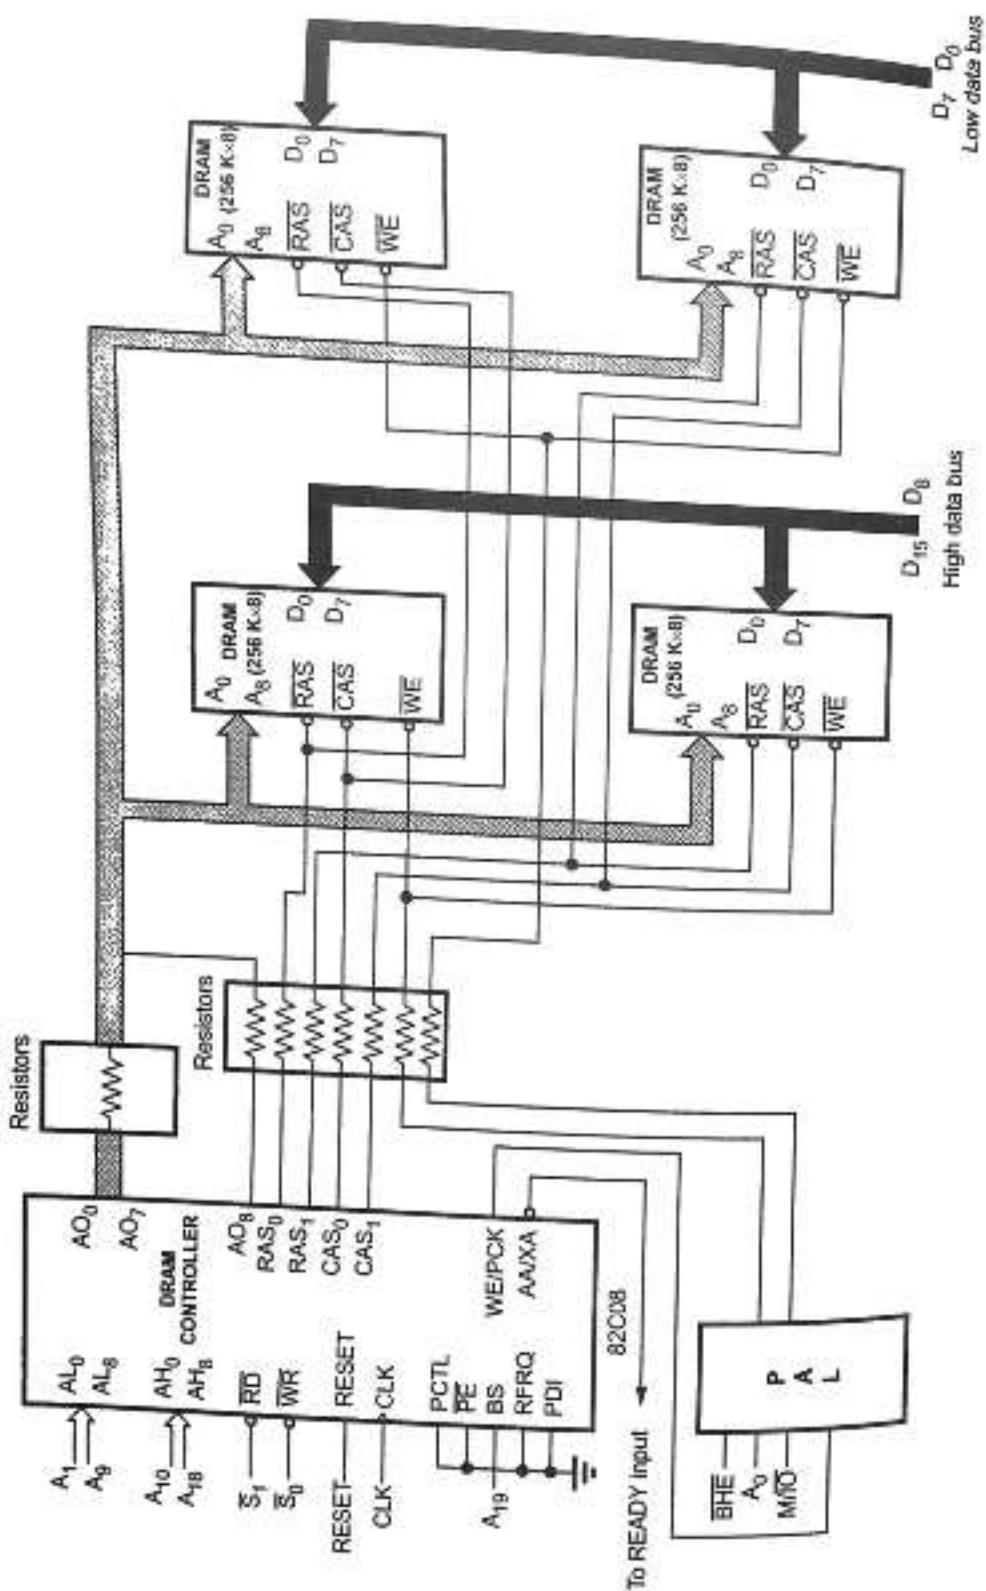

Fig. 3.3.4 The interface of 1 Mbyte DRAM memory to 8086
- Fig. 3.3.4 shows the interface of 1Mbyte DRAM memory to the 8086 with the help of DRAM controller. As DRAM controller accepts 18 address lines it can address up to 256 K memory locations. Here, 1 Mbyte DRAM memory is interfaced using a series of four 256 K \times 8bit DRAM modules. The PAL 16L8 is used to generate bank select signals and other control signals, as shown in the Fig. 3.3.4. The A_{19} signal selects the upper bank or the lower bank through the BS (Bank Select) input to the 82C08 DRAM controller. (See Fig. 3.3.4 on next page)